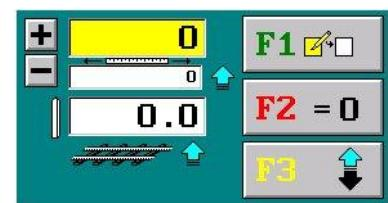

Figure 4-54
A) Press F1-Set Distance & Mile Post (Distance Monument) on the Second Main Toolbar to access the distance and milepost (distance Monument) panel. See figure 4-54.